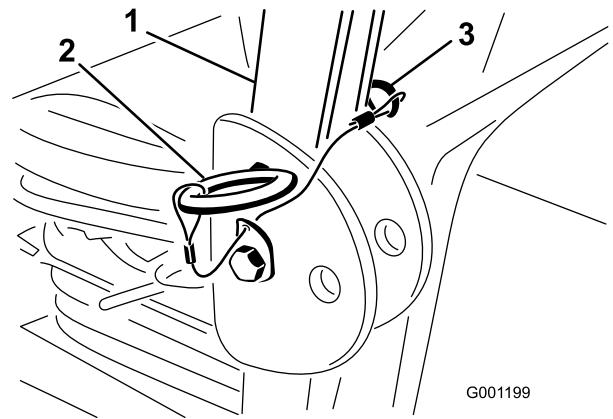

Figure 8
2. Raise the roll bar to the upright position and install the two pins and secure them with the hairpin cotter pins (Figure 8).
1. Remove the hairpin cotter pins and remove the two pins (Figure 8).